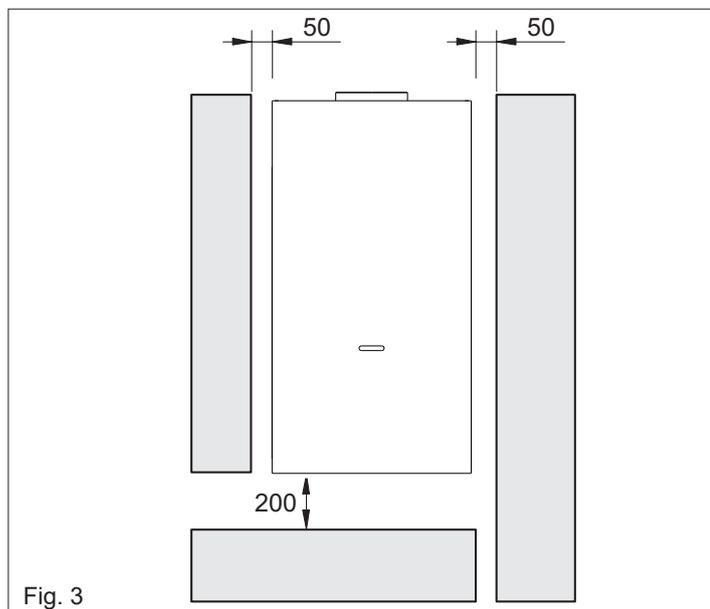

Fig. 3
- It is vital to leave the minimal distances around the device as shown in fig 3 to allow for maintenance operations to take place.